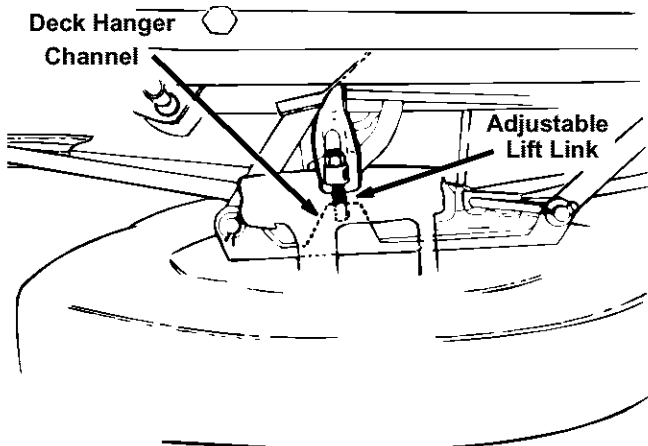

Figure 7
- Pull the adjustable lift link out of the deck hanger channel. See Figure 7. Turn the adjustable lift link up or down as necessary to level the deck. Usually only one or two turns are needed.